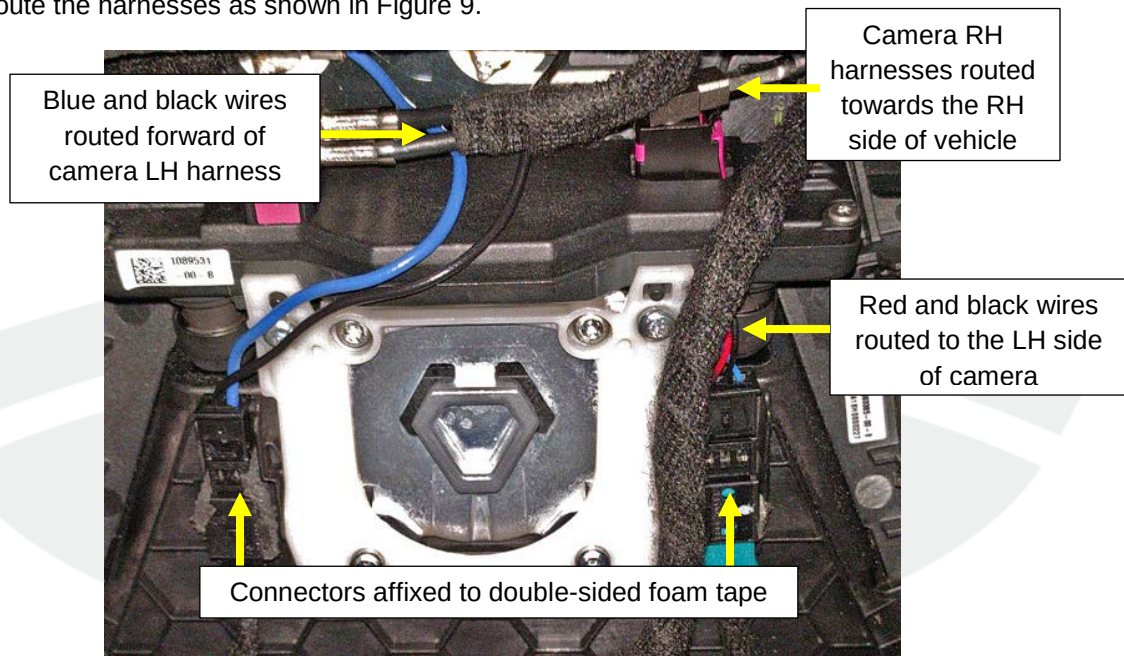

Figure 9
15. Reconnect the harnesses (Figure 9). Affix the connectors to the double-sided tape on the underside of the glare shield.
⚠ CAUTION: Route the harnesses as shown in Figure 9.
- ⚠ CAUTION:** Route the harnesses as shown in Figure 9.